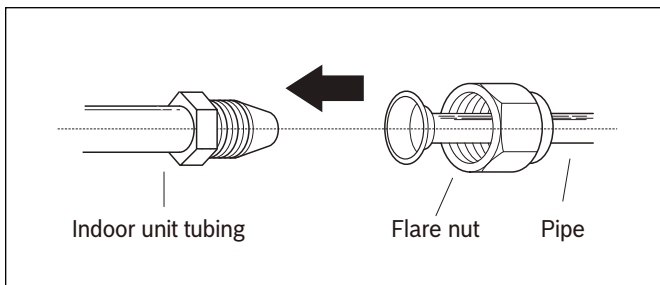

Figure 32
2. Align the center of the two pipes that you will connect. See Figure 32.